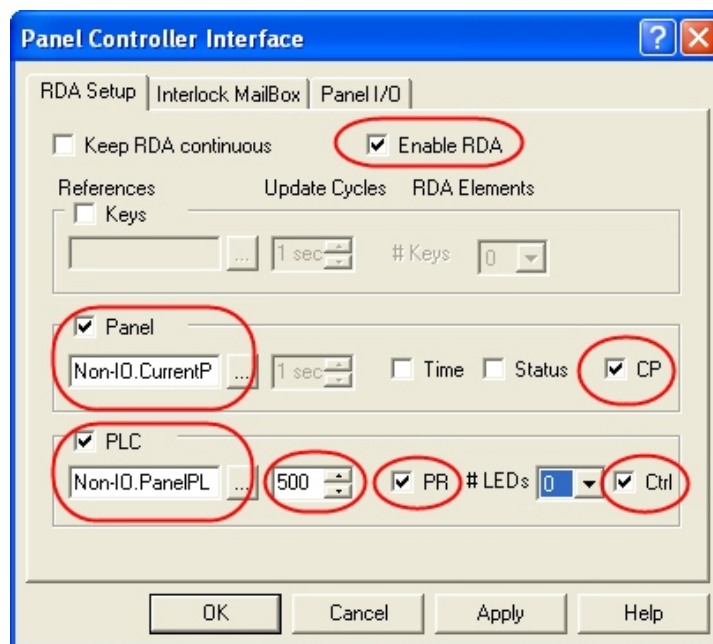

Figure 3: Panel Controller Interface
6. In **Project -> Panel Controller Interface...** window check **Enable RDA**, **Panel** and **PLC** option, link reference to tag *Non-IO.CurrentPanelPage* (under Panel) and *Non-IO.PanelPLCRegister[0]* for PLC, set update cycles to desired value (min. 500 msec) and check option **PR** and **Ctrl** (Figure 3).